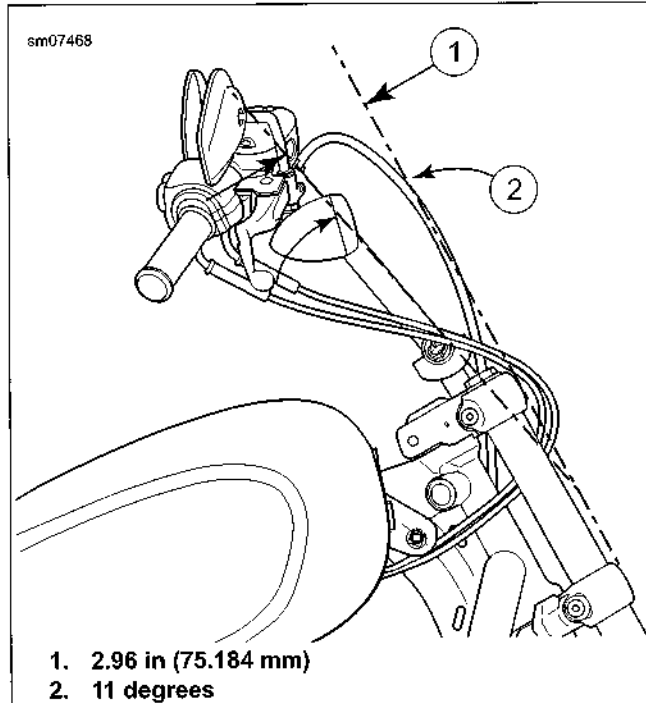

Figure 2-132. XL 1200CP/CB Mini-Ape Handlebar Angle
See Figure 2-132. Rotate mini-ape handlebar 11 degrees (2) rearward of fork angle. Measure from a straight edge placed on fork bracket 2.96 in (75 mm) to end of straight (1) (beginning of last bend). This places the hand grips 15 in (381 mm) above the seat.